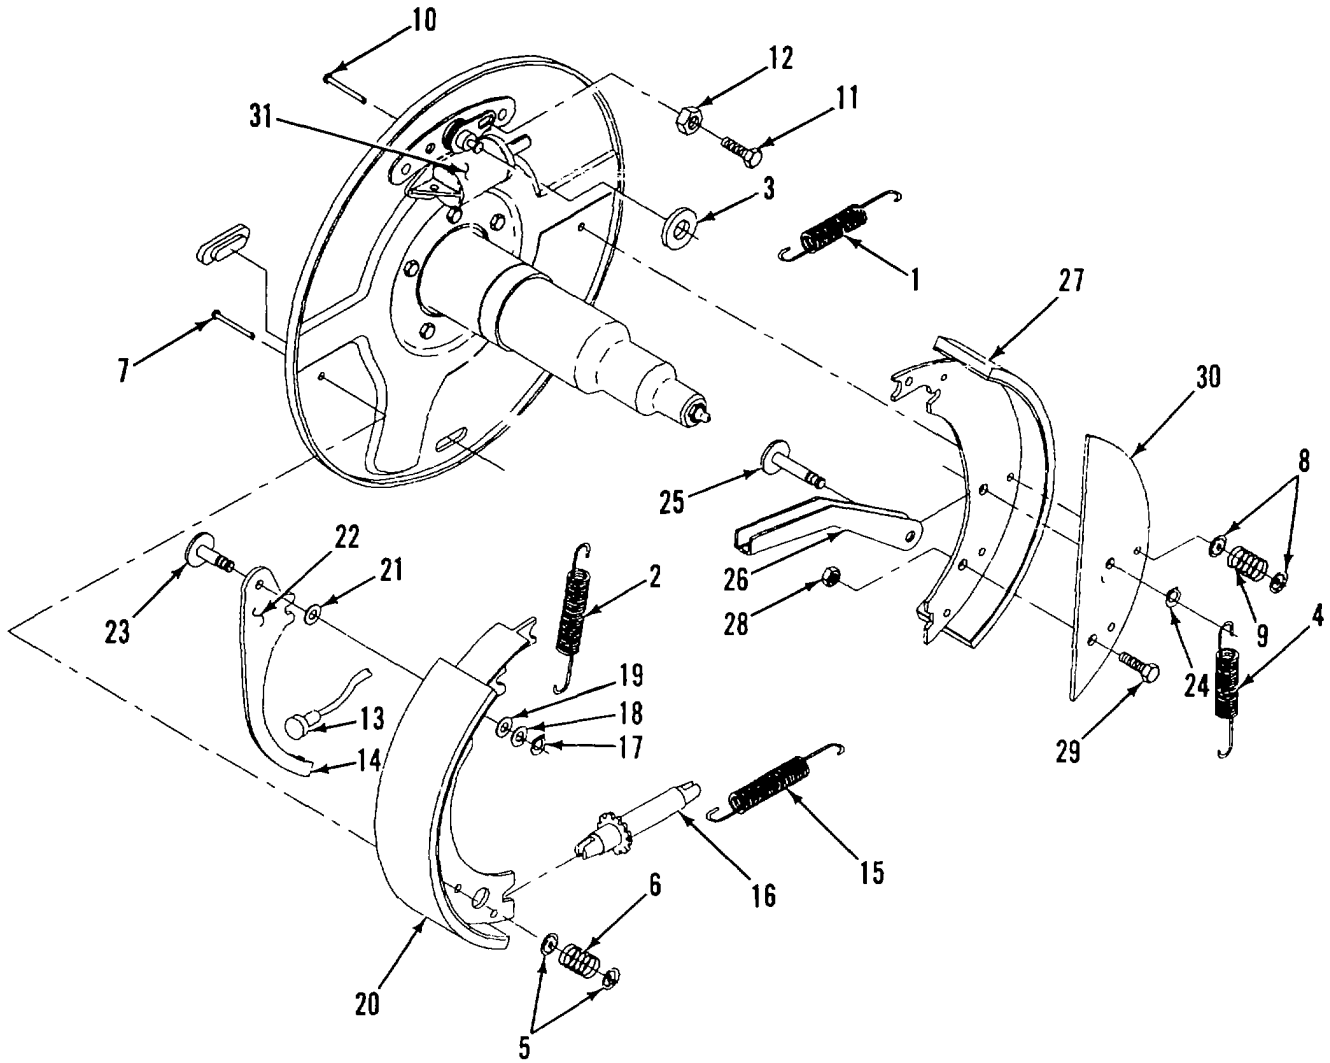

Figure 2-47. Brake Shoes and Wheel Cylinders
a. REMOVE. (Figure 2-47)
- (1) Remove lever and top shoe springs (1 and 2) and washer (3).
- (2) Remove side shoe spring (4).
- (3) Remove shoe holddown cups (5 and 8), springs (6 and 9) and pins (7 and 10).
- (4) Remove bolt (11) and locknut (12) and slide brake shoe assemblies off wheel hub.
- (5) Disconnect (unhook) parking brake cable (13) from handbrake actuating lever (14).
- (6) Remove adjusting screw spring (15), adjusting screw assembly and socket (16).